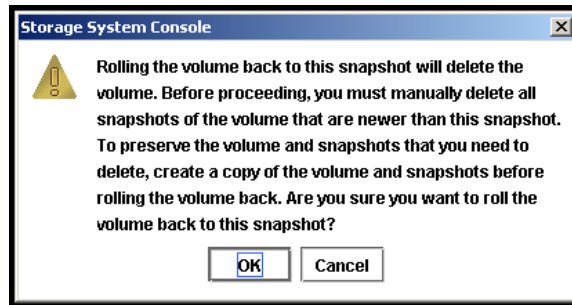

Figure 183. Verifying the Volume Roll Back
6. Click OK. The Roll Back Volume confirmation message, shown in Figure 183, explains that the original volume will be deleted.